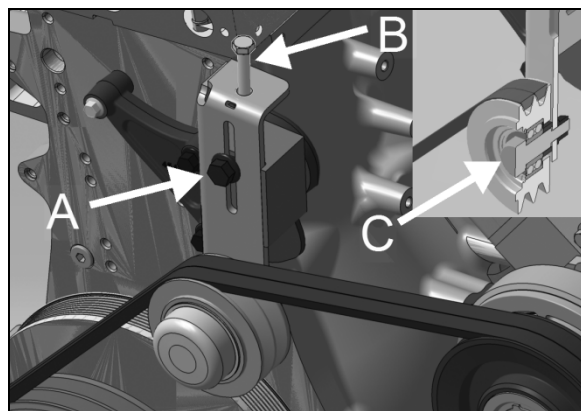

FIGURE 14: TENSIONER ON CENTRAL A/C 22381
On the mechanical tensioner (Figure 14), slightly slack lock bolt (A). Adjust tension by turning adjustment screw (B). Tighten the lock bolt (A) to preserve adjustment.